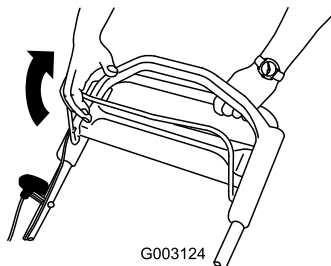

Figure 22
2. Pull the blade-control bar to the handle (Figure 22).